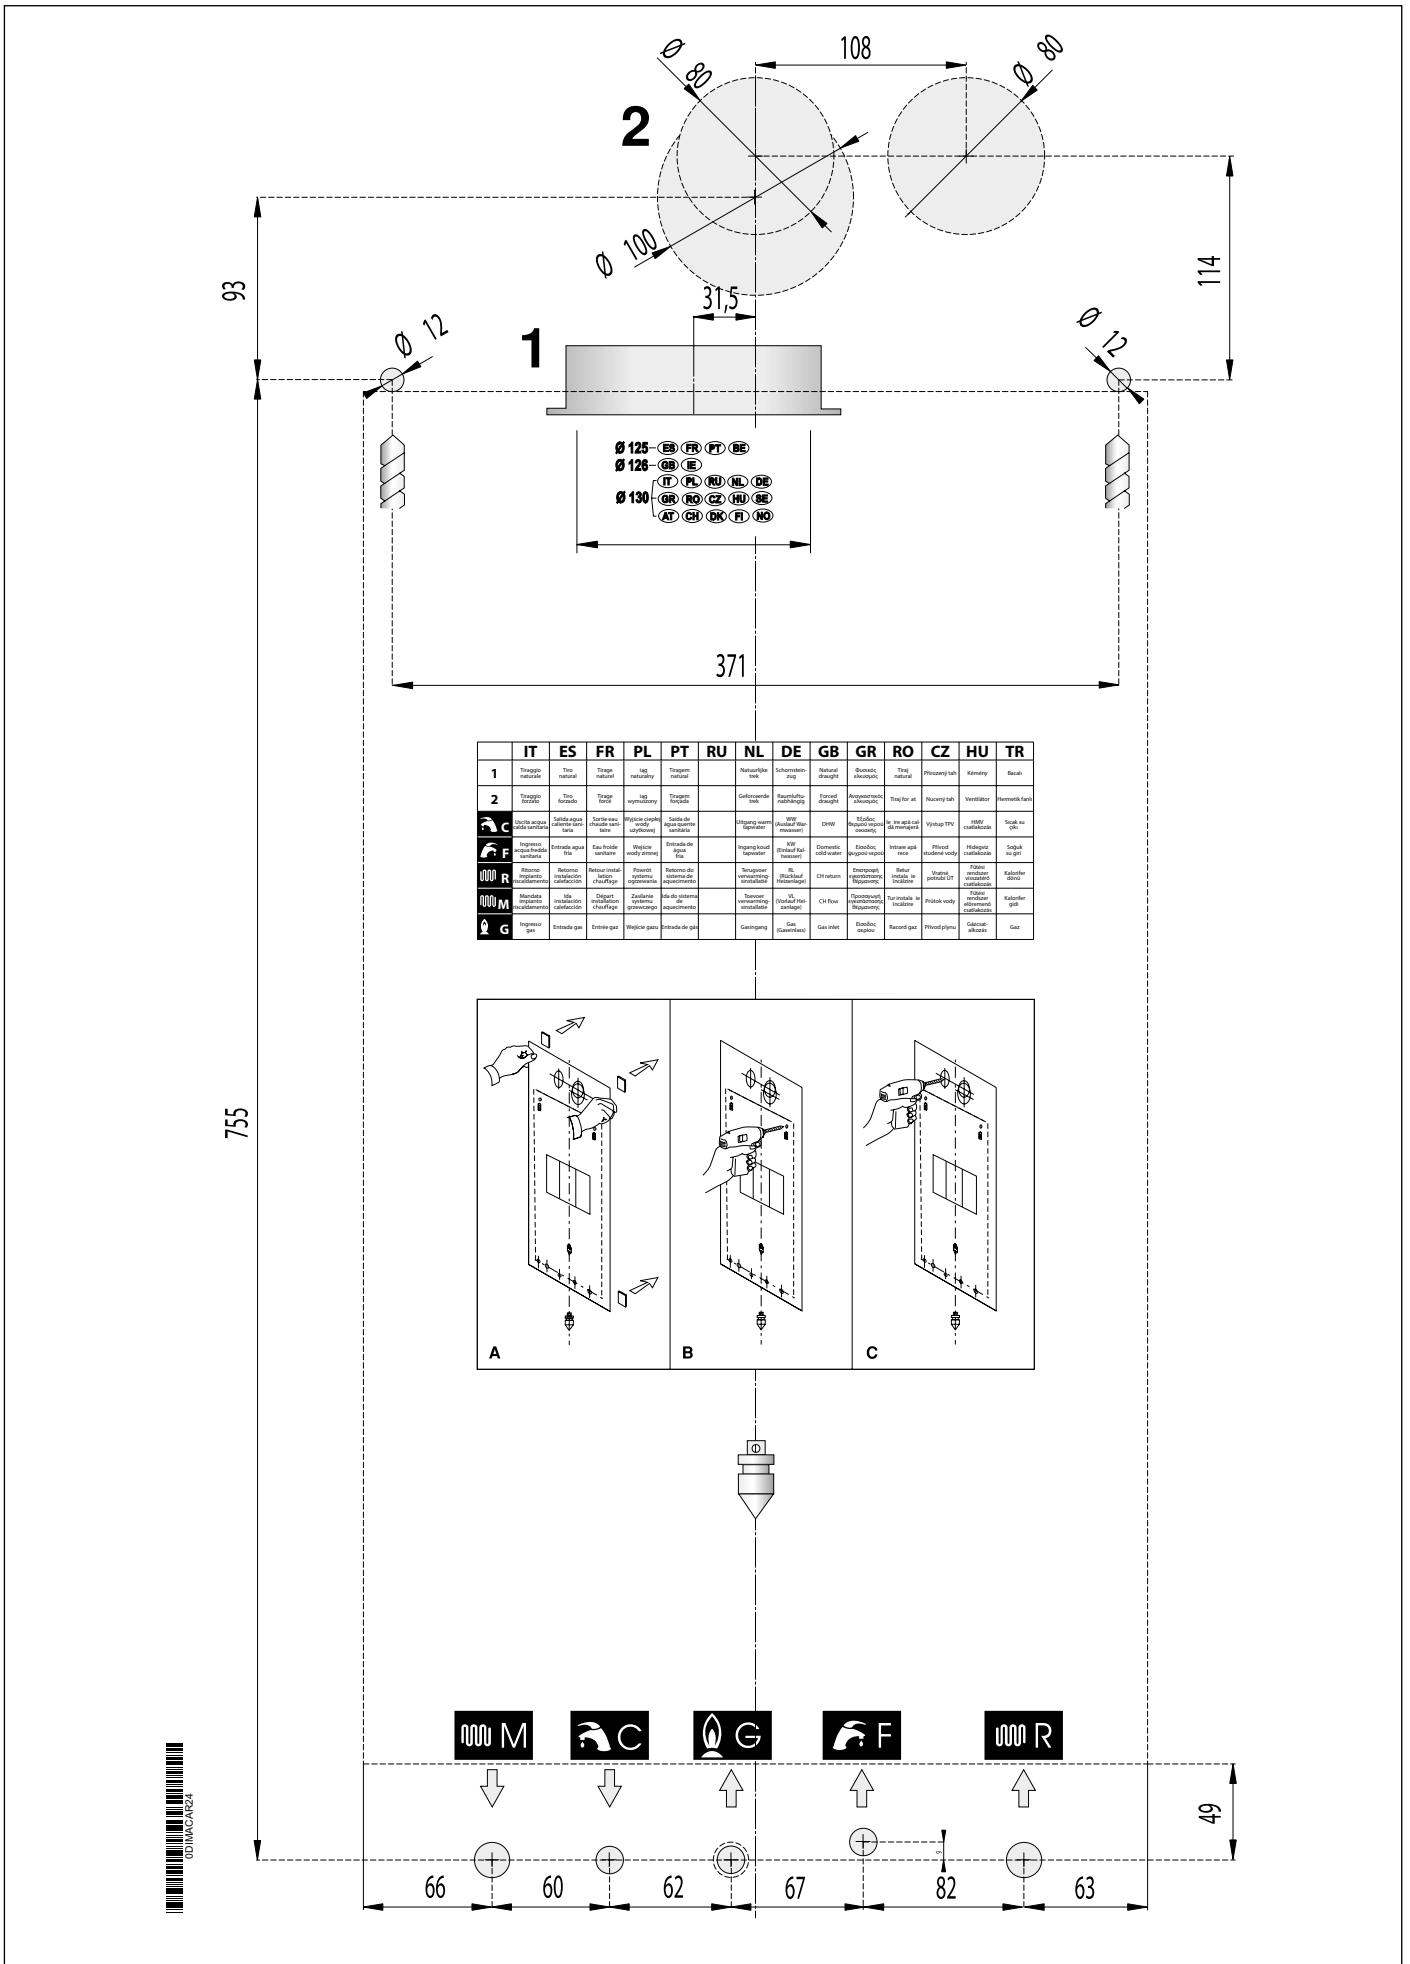

Fig. 5 Paper template
- the template for mounting the boiler on a wall (see Fig. 5 Paper template).
Each boiler is supplied with a paper template, found inside the packaging (see Fig. 5 Paper template).